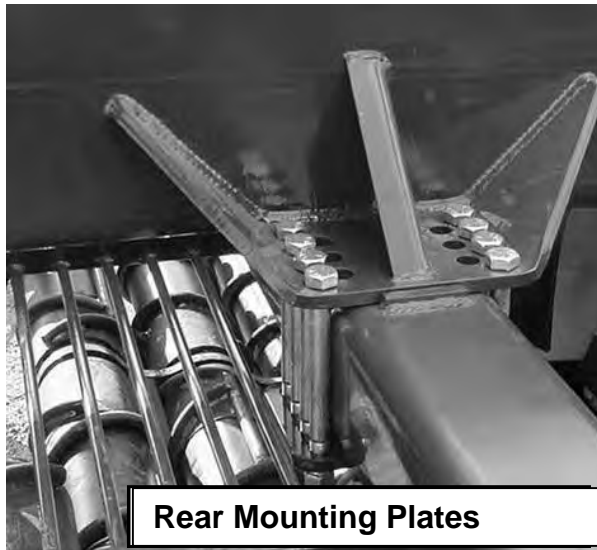
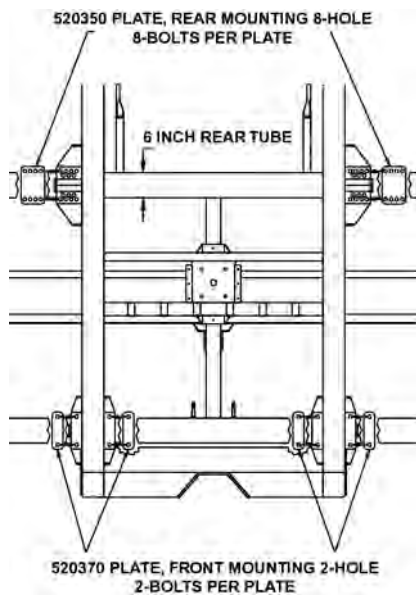

Figure 91 - Header To Harvester Attaching Hardware (8 Bolts).
Figure 92 - Mounting Plate Details
- a. Secure the header to the harvester. Using the plates and bolts provided. See Figure 89, Figure 91, and Figure 92.